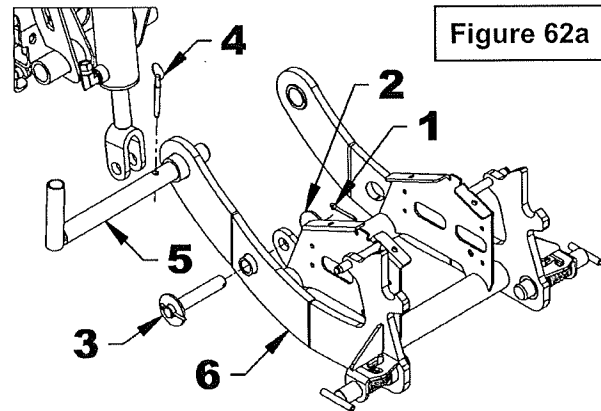

Figure 62a
1. **Figure 62a:** Remove the 4pt hitch by removing the 3/16 "x 1 1/2" lg cotter pin (item 1), the 3/4" flat washer (item 2) and the 3/4" x 4 1/2" lg pin (Item 3). Remove the 5/16" x 1.8" lg shoulder pin (item 4), the L pivot pin (item 5) and remove the hitch (item 6).